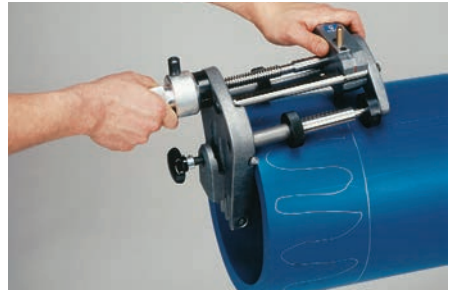

fig. 6
- Tighten the twist grip knob (5) (fig. 6) until all four guide rollers (6) rest on the surface of the pipe or spigot fitting.